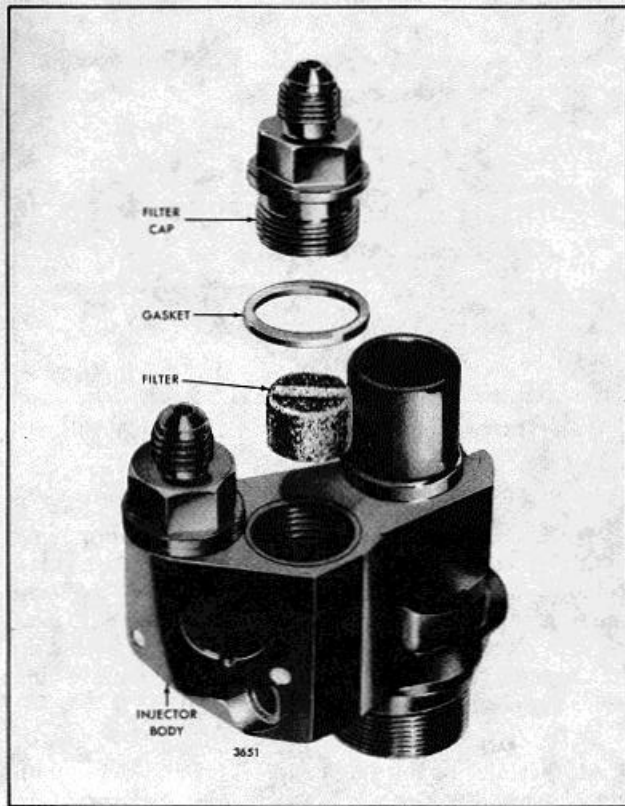

Fig. 35. Details of Injector Filters and Caps and Their Relative Location
1. Insert a new filter, dimple end down, slotted end up, in each of the fuel cavities in the top of the injector body (Fig. 35).